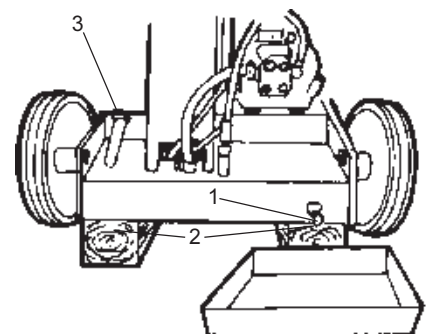

Fig.20 Position of the oil recovery tray
- Raise the log splitter slightly and rest it on two chocks (2 in fig.20).
- Place a receptacle (fig.20) able to hold around 10 Lt. of oil under the oil drainage plug located to the rear of the machine.
- Unscrew the drainage plug (pos. 1 figures 20 and 21) with a suitable wrench and let all the oil in the tank drain into the receptacle.
- Remove the oil plug (3 in fig.20) and fill the tank with the correct oil (see page 5 for oils to be used), pouring in around 6 Lt.